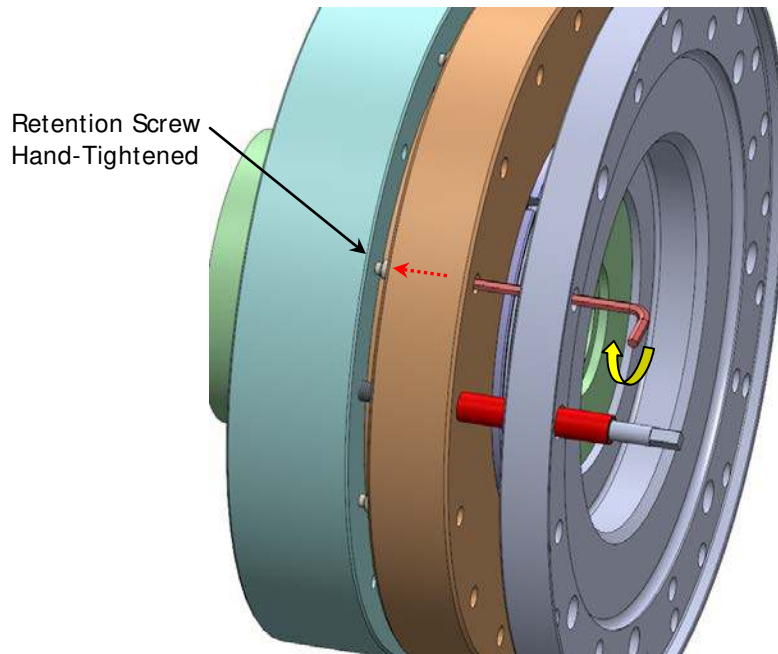

Figure 7 – Tightening Retention Screws
3.4.13 Tighten the eight retention screws (socket head set screws) hand tight with a hex wrench. The screws are accessed through the flange face as shown in Figure 7.